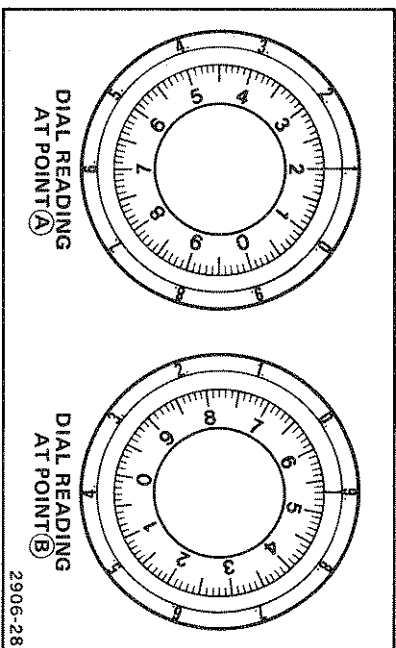

Figure 24. B DELAY TIME POSITION control settings.
**EXAMPLE:** With the A SEC/DIV switch set to 2 ms, the first B DELAY TIME POSITION dial setting (Point A) is 1.20 and the second B DELAY TIME POSITION dial setting (Point B) is 9.53 (see Figure 24).